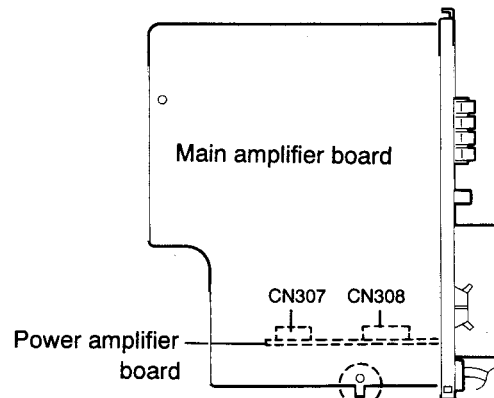

Fig.5-16
6. Disconnect the main amplifier board connectors CN307 and CN308 from the power amplifier board.(See Fig. 5-16)